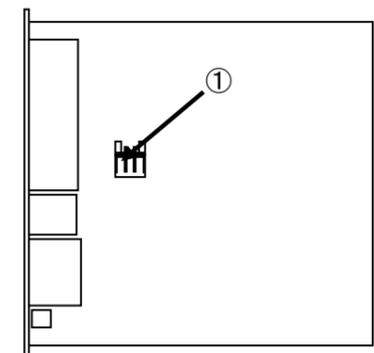

Fig. 5
- (1) Dismount the IF unit.
- (2) Plug this connector into the connector ① shown in Fig. 5.
- (3) Undo the IF unit.